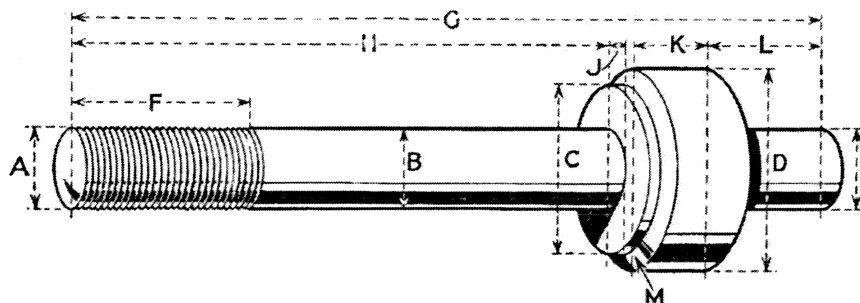

Fig. 1. Tool for drawing in exhaust valve seat insert.
5. The new insert has an interference fit in the cylinder block of .005 in. to .007 in. (0,13 to 0,18 mm.) and must be pulled into position, using the tool illustrated at Fig. 1. It is not necessary to heat the block or freeze the insert to assist in fitting.